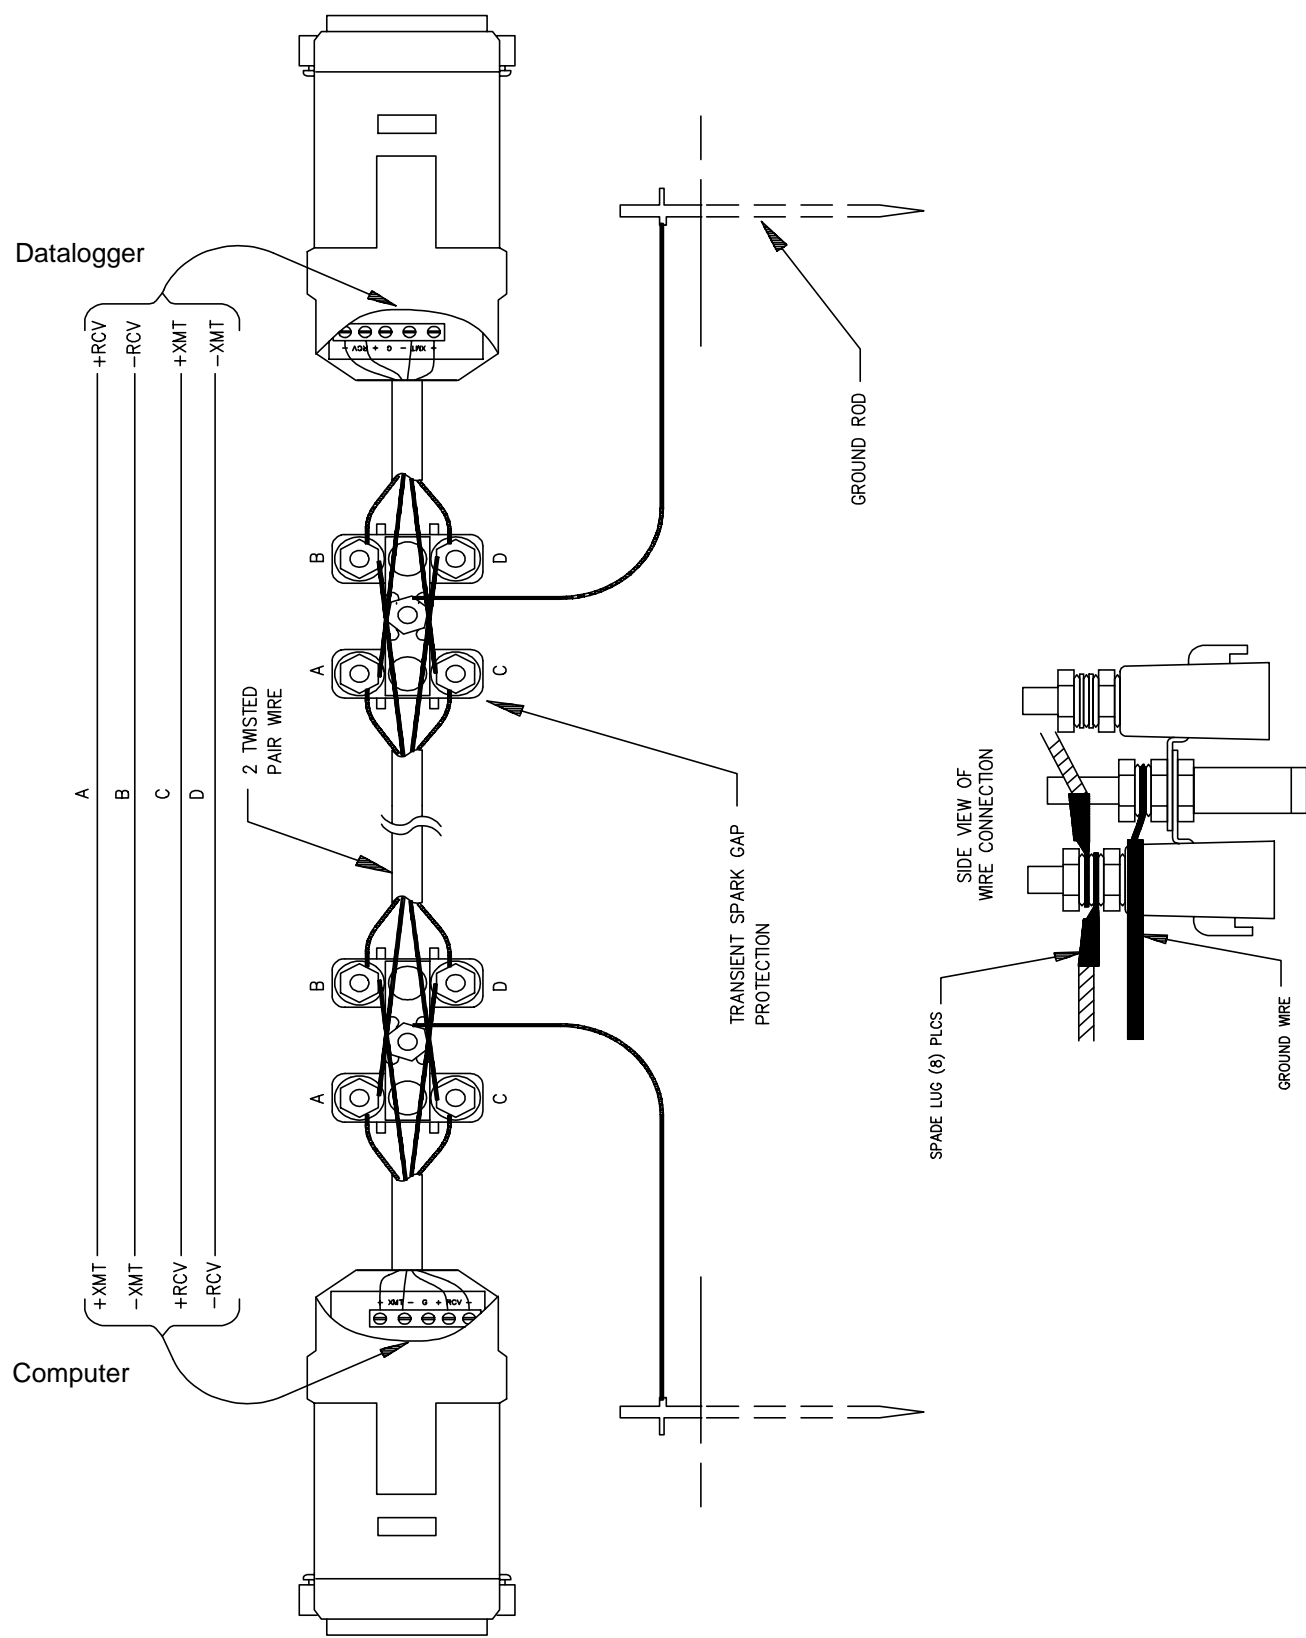

FIGURE 3.3-5. SRM-5A Wiring
3. Connect the SC932(C) to the datalogger's I/O port with an SC12 cable.
4. Mount the 6361 Surge Protector to the enclosure backplate using the hardware provided. Connect the ground wire to the enclosure ground lug (Figure 3.3-5).
5. Cut a 12" long piece of two twisted pair cable and connect it to the SRM-5A as shown in Figure 3.3-5. Fasten the cable to the strain relief tab with a cable tie.
6. Route the cable previously attached to the SRM-5A, and the two twisted pair cable (from the other SRM-5A) to the 6361. Connect the cables as shown in Figure 3.3-5. Strain relief the cables to the side of the enclosure using cable ties and tabs.
2. Cut a piece of two twisted pair cable long enough to reach from the 6361 to the computer. Connect the cable to the SRM-5A as shown in Figure 3.3-5. Fasten the cable to the strain relief tab with a cable tie. Connect the SRM-5A to the computer's serial port.
Connect the cables as shown in Figure 3.3-5. Strain relief the cables using cable ties and tabs.